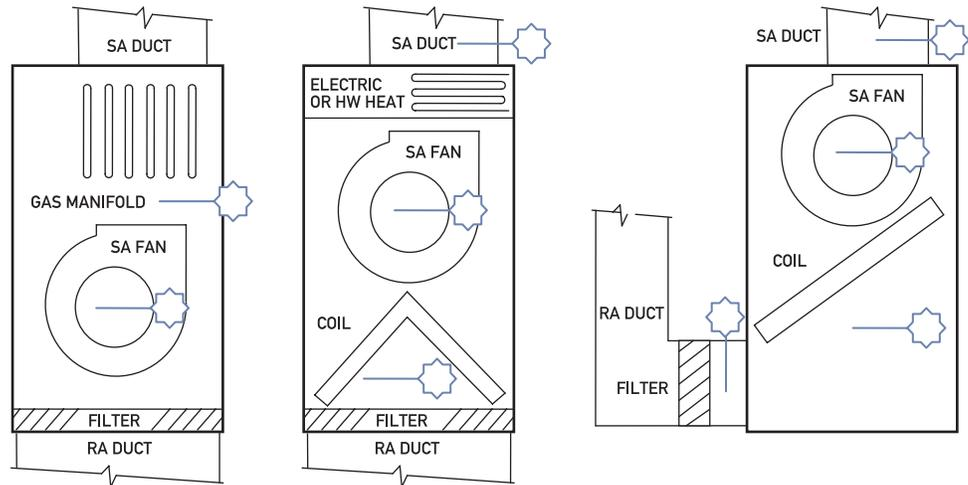

FIGURE 2 - SUGGESTED MOUNTING LOCATIONS IN A TYPICAL AHU OR FURNACE
- 3) If the unit cannot be installed in the preferred location due to space or temperature limitations, see Figure 2 for alternate locations. Units can be installed using "L" shaped brackets available from many hardware suppliers or by cutting a hole in the AHU or furnace casing.